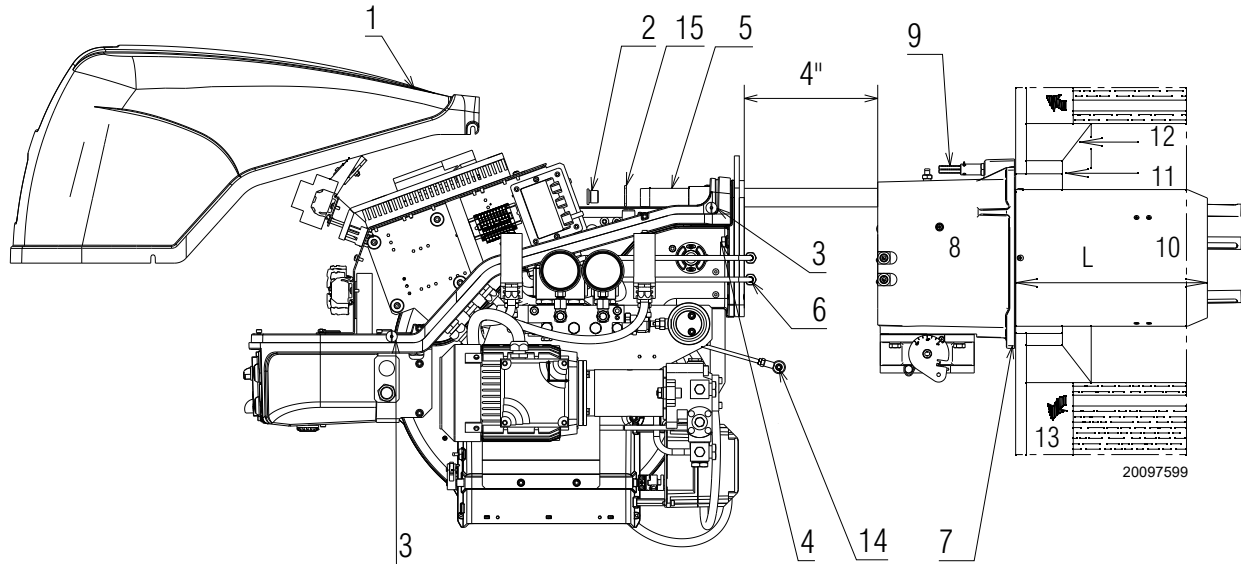
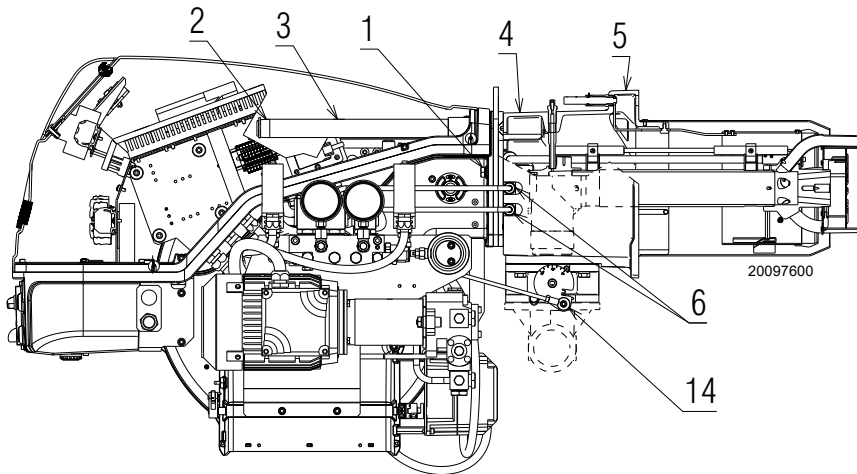

Fig. 12
Fig. 22
For boilers having a water-cooled front, the insulation (11)- (12)(Fig. 12, page 18) is not required unless it is required by the boiler manufacturer.
Detach the combustion head from the burner, (Fig. 12):
- Refit the burner to the slide bars 3)(Fig. 22) at approximately 4" from the sleeve 4) - burner positioned as shown in Fig. 12, page 18 - insert the ignition electrode cables;
- slide the burner up to the sleeve so that it is positioned as shown in Fig. 22;
- refit screws 2)(Fig. 22) on slide bars 3) including the safety plate 15) Fig. 12, page 18;
- connect the oil pipes again by screwing on the two connectors 6)(Fig. 12, page 18).